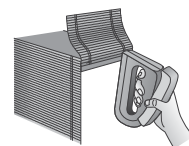
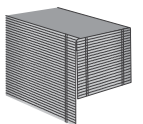

figure 6
figure 7
4. Attach End Flaps (if desired) by placing side return on top of headrail with rolled hem facing up and tape folded over the end. Ensure tape does not extend beyond top of headrail. Peel backing off adhesive tape and tack side return to headboard (figure 6). Fold return over the tape. Press material down to make a clean fold at the top of the headrail (figure 7).